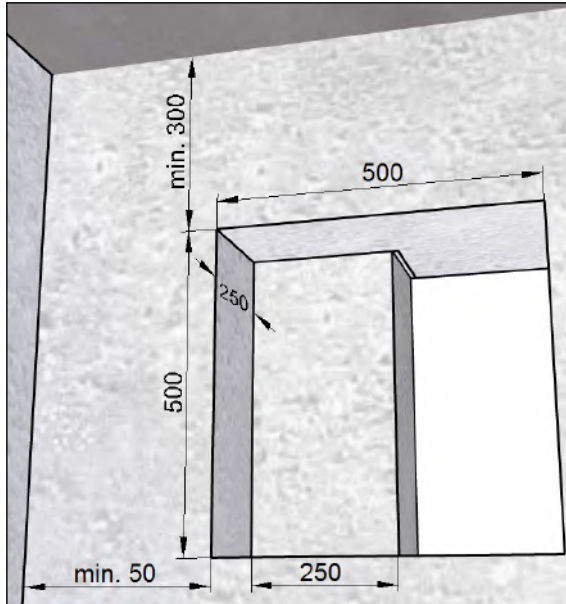

Fig. 9: Wall breakthrough for installation kit **without** filler piece, dimensions in millimetres
- Wall breakthrough with recess (see Fig. 9) for installation kit **without** filler piece M-WRG-M/Fü
- Wall breakthrough with recess (see Fig. 9 on page 20) for installation kit **without** filler piece M-WRG-M/Fü